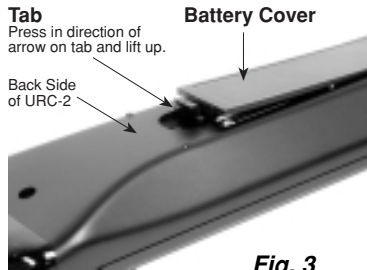

Fig. 3
1. Turn the unit over and remove the battery cover. Press the cover Tab in the direction of the arrow on Tab and lift up. See **Fig. 3**.